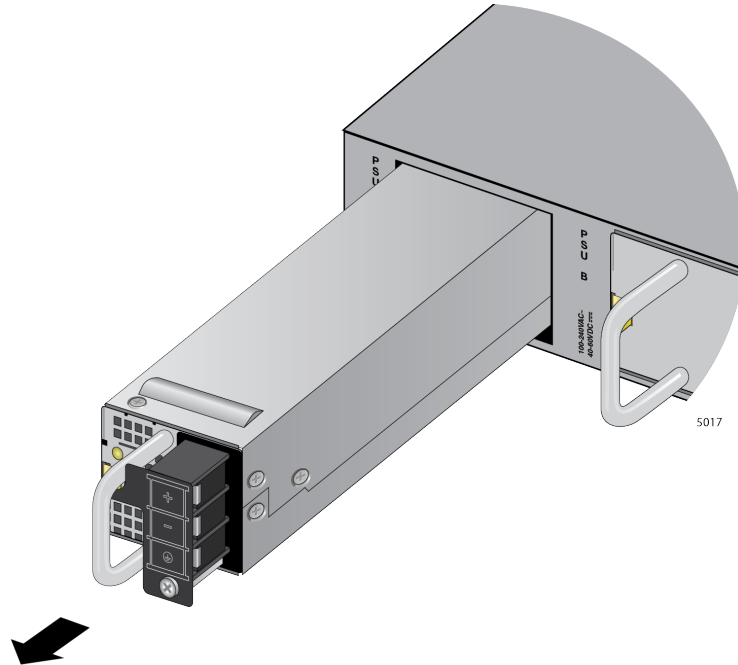

Figure 138. Removing a DC Power Supply
7. Carefully slide the power supply from the switch. Refer to Figure 138 on page 196.